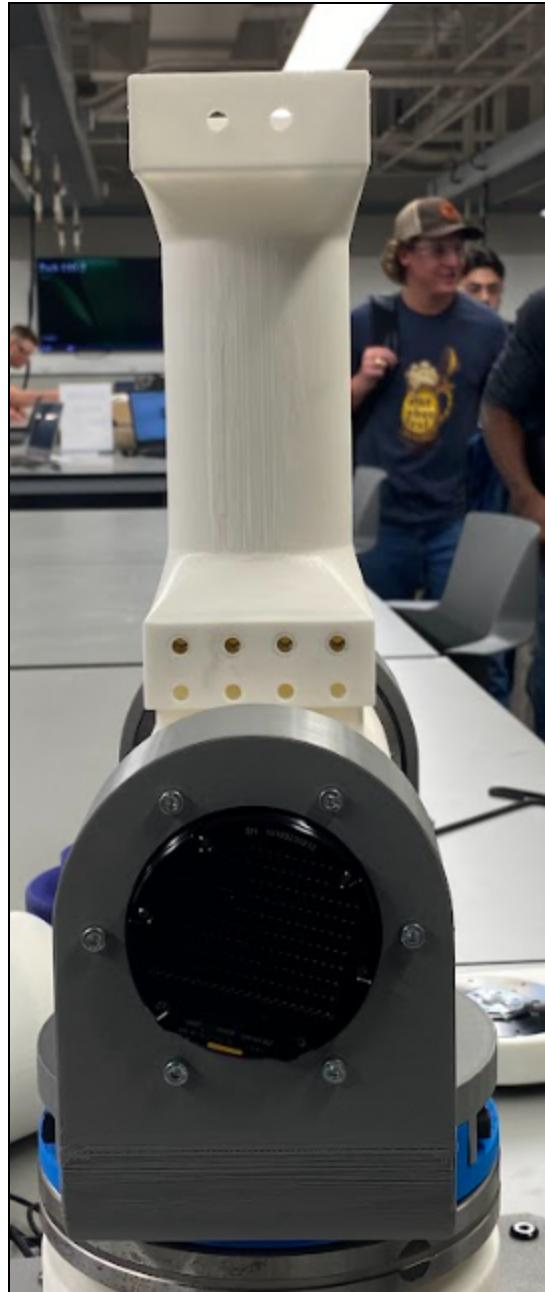

Figure 21: Bicep on J2 Cylinder
- Place the bicep onto the J2 Cylinder rectangular protrusion. Refer to Figure 21.